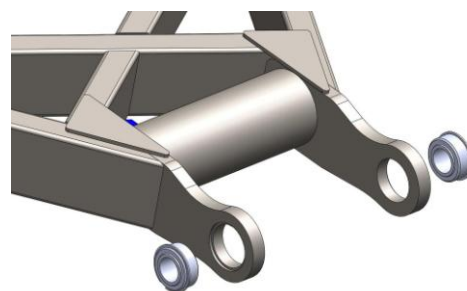

Figure 3
- a. See OE manual for detailed bearing install instructions, noting use of HD special tools. Figure 3